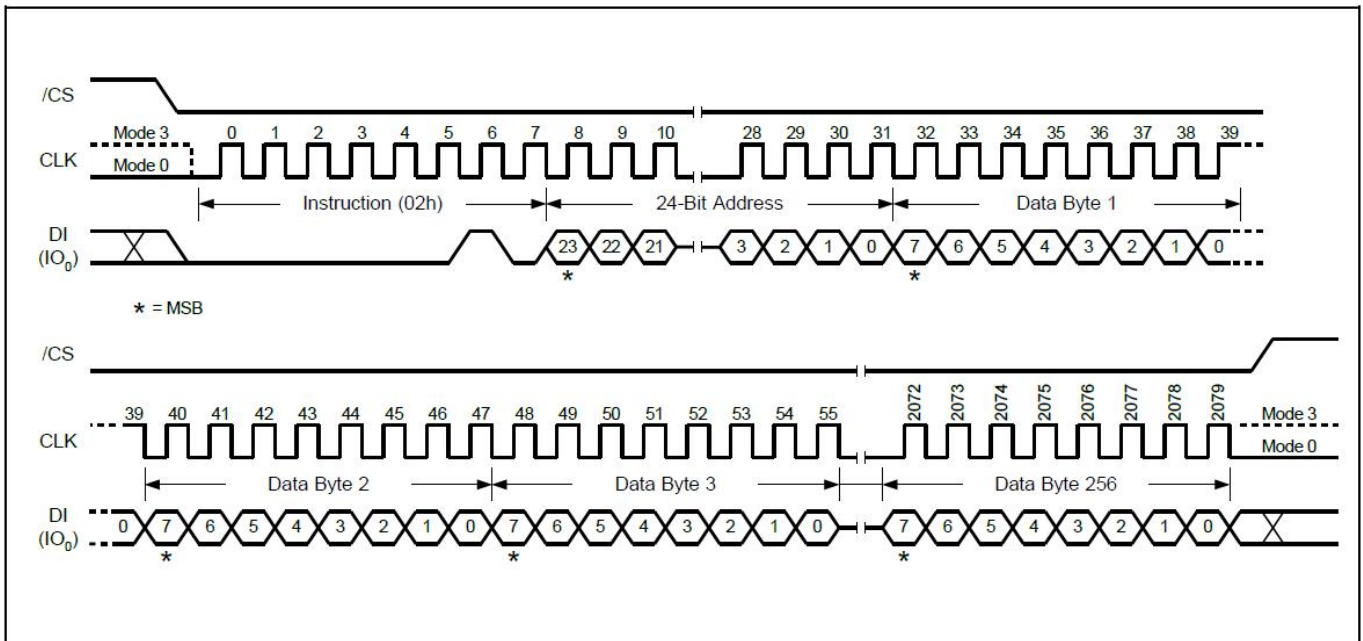

Figure9 Page Program Sequence Diagram
The Page Program (PP) command is entered by driving CS# Low, followed by the command code, three address bytes and at least one data byte on SI. If the 8 least significant address bits (A7-A0) are not all zero, all transmitted data that goes beyond the end of the current page are programmed from the start address of the same page (from the address whose 8 least significant bits (A7-A0) are all zero). CS# must be driven low for the entire duration of the sequence. The Page Program command sequence: CS# goes low → sending Page Program command → 3-byte address on DI → at least 1 byte data on DI → CS# goes high. The command sequence is shown in Figure9. If more than 256 bytes are sent to the device, previously latched data are discarded and the last 256 data bytes are guaranteed to be programmed correctly within the same page. If less than 256 data bytes are sent to device, they are correctly programmed at the requested addresses without having any effects on the other bytes of the same page. CS# must be driven high after the eighth bit of the last data byte has been latched in; otherwise the Page Program (PP) command is not executed.